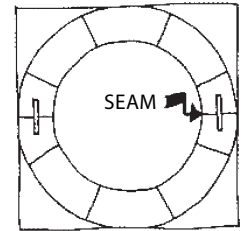

FIGURE 8-4
3. Caulk the area where the shaft and base meet. Then position halves of shaft on the base so that seams are oriented at a 90-degree angle to the primary view (Fig. 8-4), leaving a gap between them for gluing.